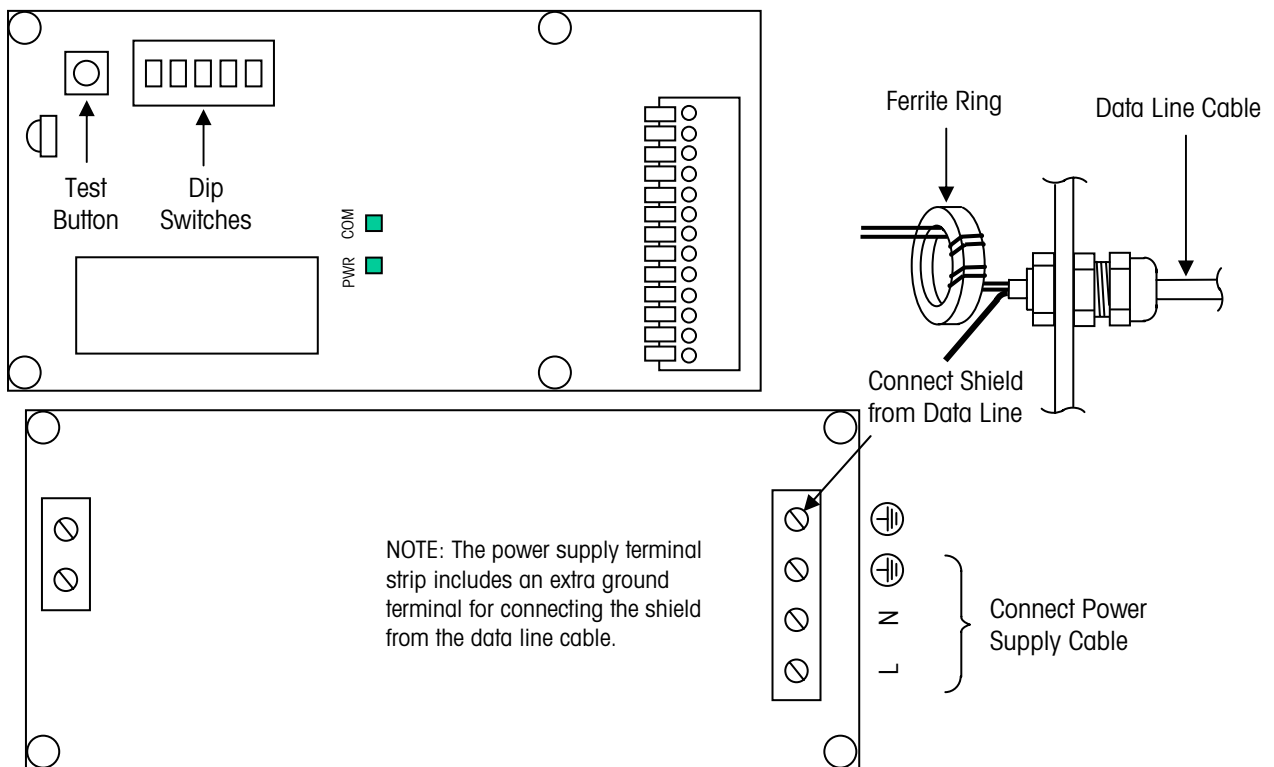

Figure 2-1: Power Supply Cable Wiring
4. Wire the cable to the Line, Neutral, and Ground terminals as shown in Figure 2-1.
NOTE: Connect the shield wire from the data line cable to the ground terminal as shown in Figure 2-1. At the scale terminal, connect the shield wire to the same ground point as the outer drain wire from the home run cable (see drawing TC100460).
NOTE: Wrap the data line cable around a ferrite ring as shown in Figure 2-1.